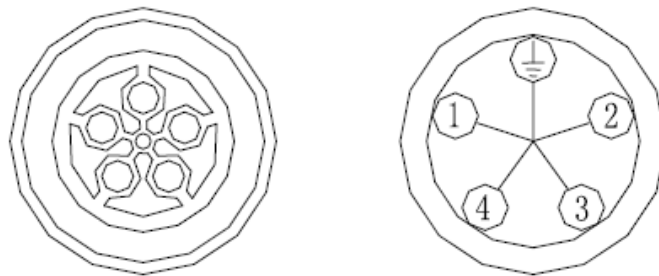

Fig.5.1.1
- 1) Connect the cables into their respective channels shown as Fig.5.1.1, '1' represents Neutral channel (marked with '1' on the terminal), '2,3,4' on Fig.5.1.1 represent three Live line channels (marked with '2,3,4' on the terminal), and GND represents Ground channel (marked with \perp on the terminal).